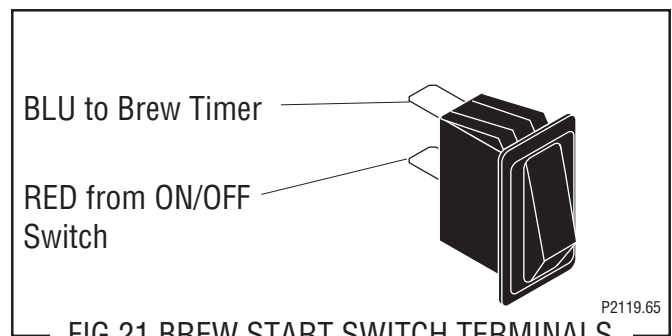

FIG.21 BREW START SWITCH TERMINALS
4. Refer to Fig. 21 and reconnect the wires.